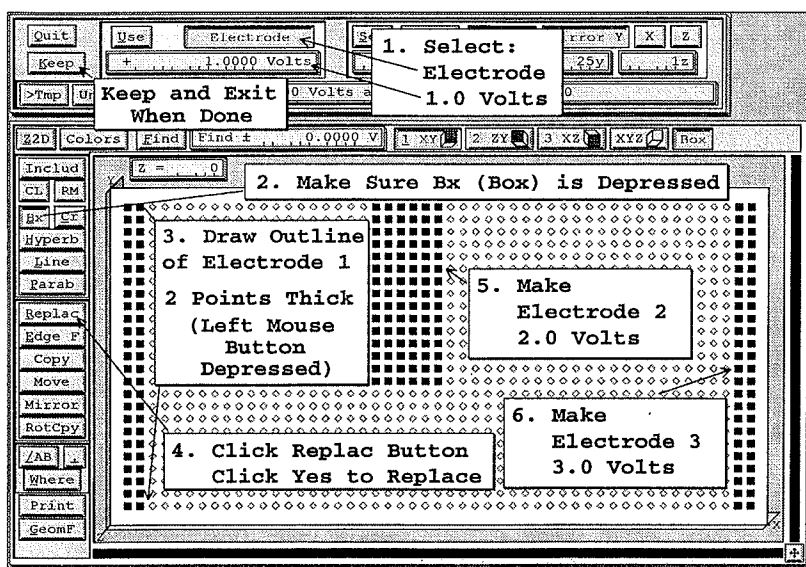

Figure 2-11 The steps involved in creating electrodes with the **Modify** function
Click the **Modify** button on the Main Menu Screen to access the **Modify** function. You should now be looking at the Modify Screen (*Figure 2-11*). Each electrode is defined by setting its point type (*e.g. electrode*) and voltage, marking its area of points, and then clicking the **Replac** button to replace the marked points with the defined values. The followings steps should be used:
5. Change the **Voltage** panel to 2.0 volts and insert electrode number two (as in Figure 2-11) in the same manner as electrode one.
6. Change the **Voltage** panel to 3.0 volts and insert electrode number three on the *right edge* (as in Figure 2-11) in the same manner as electrode one.